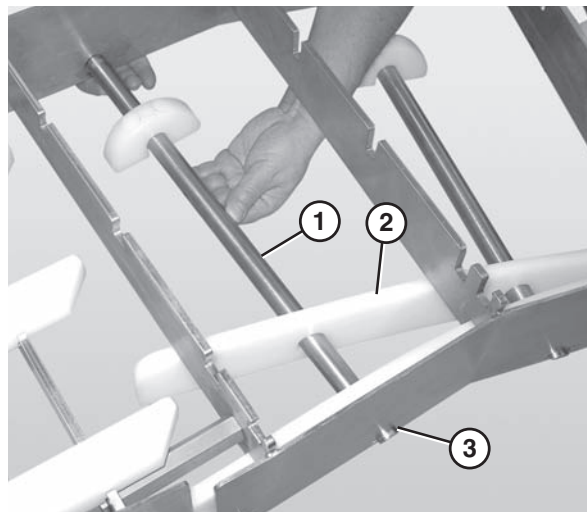

Figure 34
3. Slide the long end of the curve return shaft (Figure 34, item 1) through the center hole in the return bottom wear strip (Figure 34, item 2).
5. Push up on the return shaft and slide the notched end of the shaft through the small slot on the opposite side of the frame (Figure 34, item 3).